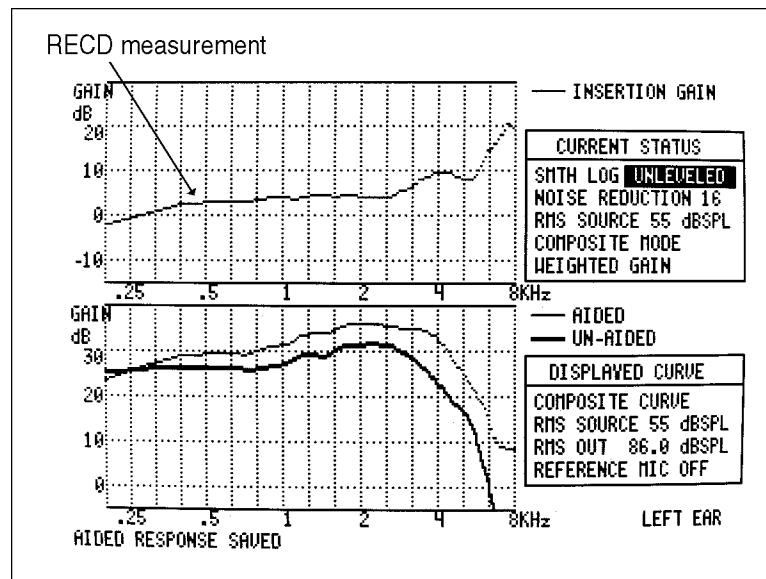

Figure 8.5.5.2A—RECD and real-ear measurement
4. Insert the foam eartip connected to the insert earphone into the client's ear. See Figure 8.5.5.1.
6. Press [AIDED] to save the measurement as the aided response (Figure 8.5.5.2A).
7. If desired, press [DATA] to get the numerical values of the RECD measurement (Figure 8.5.5.2B).